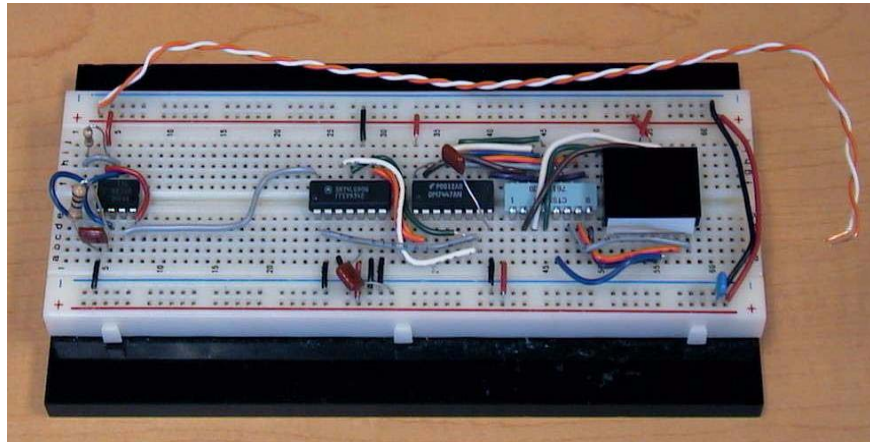
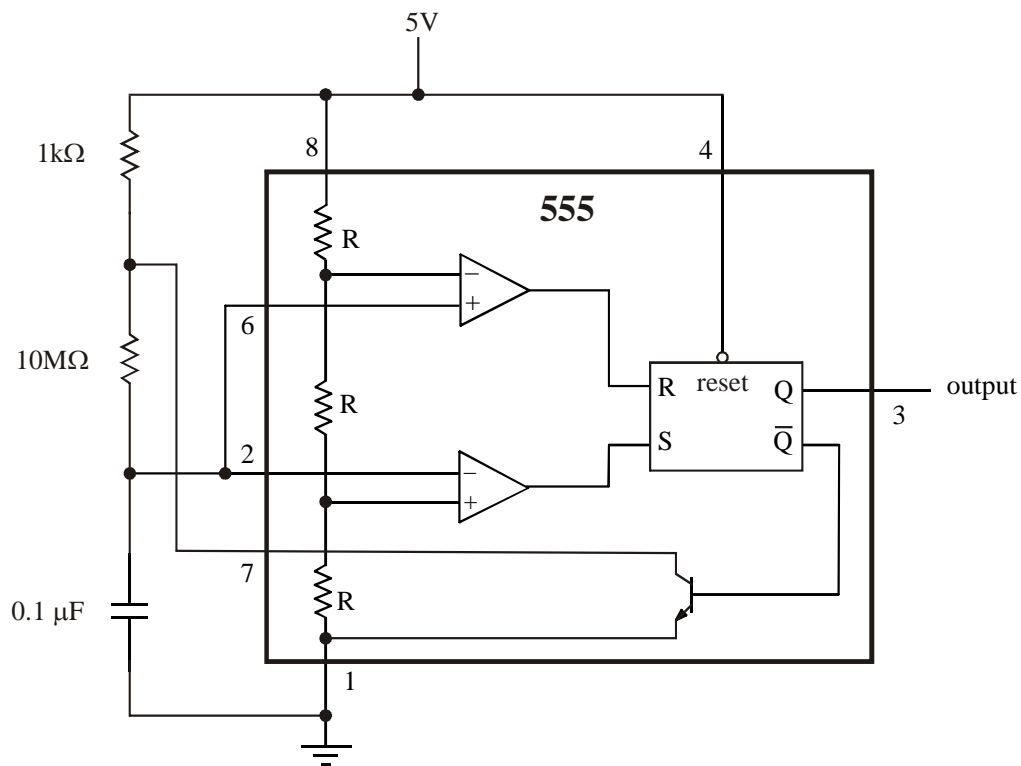
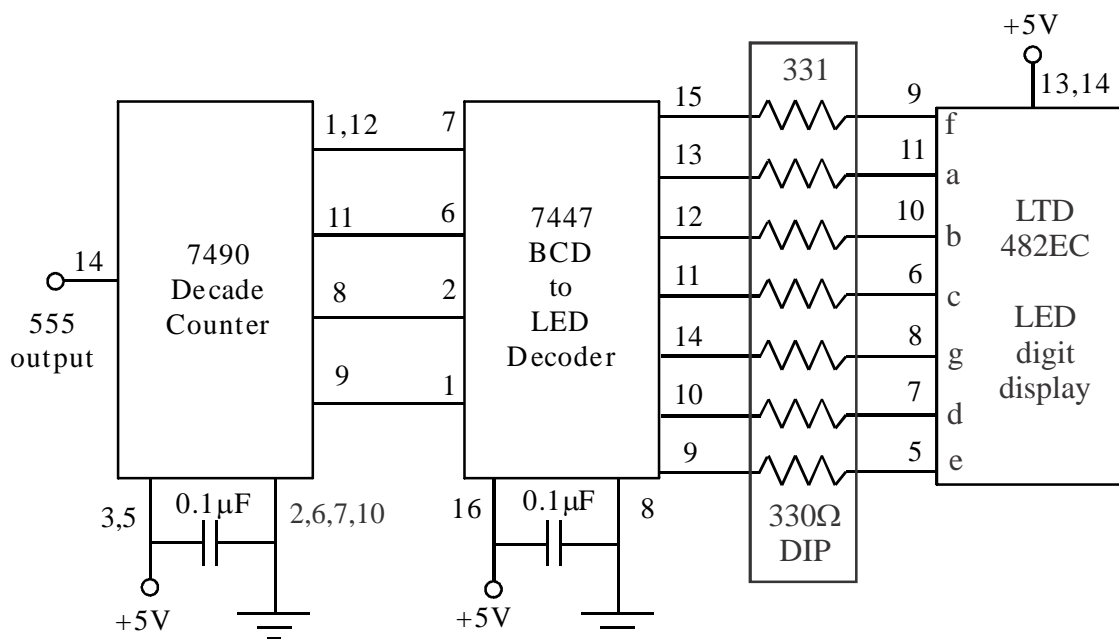

Figure 8.6 Example of Breadboard Wiring
Figure 8.7 555 Timer Circuit
Figure 8.9 Decade Counter Wiring Diagrams
- (1) Construct the 555 timer circuit shown in Figure 8.7 on the left side of your breadboard (see Figure 8.6). Figure 8.8 shows useful information from the 555 datasheet. Using the resistor and capacitor values shown in Figure 8.7, the output of the circuit will be a pulse train with a frequency of approximately 0.7 Hz, corresponding to a period of approximately 1.4 sec (see Section 6.12.3 in the textbook for more information).
- (2) Verify that your timer circuit is working properly by displaying the output on the oscilloscope **and** by driving an LED. Show the result to your TA before continuing. Leave this circuit on your protoboard as it will be used later.
- (3) In the steps that follow, you will construct the one-decade digital display shown on the right side of Figure 8.6. The detailed wiring diagram is shown in Figure 8.9. **Don't start building the circuit yet!** Read the information below and then follow the steps in the remainder of the procedure (starting on the next page). Each group should have a 7-segment LED display (e.g., MAN6910 or LTD482EC), a 7447, a 7490, and a 555.
When making connections, trim wires to appropriate lengths so they will lay flat against the board when inserted. A “rat’s nest” will not be acceptable. Also, if multiple wire colors are available, be purposeful with your selections (e.g., red for power, green for ground, and other colors for different signal types). Please see the TA’s board and Figure 8.6 as model examples.
Figure 8.10 includes useful reference information from the MAN6910 datasheet. If your display is not one of the model numbers listed in Figure 8.9, you might need to look up the spec sheet for your display to see which circuit in Figure 8.9 to use (by comparing the spec sheet to Figure 8.10 if necessary).
- (4) Wire the top and bottom two rows of the breadboard together as shown in Figure 8.6 so both power (+5V) and ground will be accessible on both sides of the board. This makes it convenient to connect to +5V and ground on either side of a component. It is good practice to leave the power supply off and disconnected while working on the circuits. Only when you are ready for a test should you turn on the power supply, check to make sure the voltage is set to +5V, and then connect to your board.
- (5) Before inserting any components in the board, be sure to lay them all out first to make sure everything will fit. Figure 8.6 shows a suggested board layout.
- (6) Insert the MAN6910 2-digit display on the right side of the board, with the corner labeled MAN6910 at the lower-left side. This label marks pin 1 on the MAN6910.
- (8) Insert the 7447 IC next to the 330 Ω DIP resistor IC. Per Figure 8.9, connect the MAN6910 one's (right) digit to the 7447 and connect +5V and ground as shown.
- (9) Activate the 7447 lamp test by attaching 0V to pin 3 and 5 V to pin 4. Turn on and attach the power supply to see if all LED segments come on, as they should.
- (10) Remove the wire from pin 3 and apply +5V to pins 1, 2, 7 and ground to pin 6 of the 7447. Does the display show what you think it should? Turn off and disconnect the power supply before continuing.
- (11) Finish wiring the 7447 and 7490 as shown in Figure 8.9. Refer to the 7490 Reset/Count Truth Table and the description of the reset inputs in Section 8.2. In Figure 8.9, pins 2, 6 and 7 (R0(1), R9(1) and R9(2)) are grounded and pin 3 (R0(2)) is held high, putting the 7490 in count mode. To be able to reset the counter, wire up a normally-open (NO) button to pin 2 (R0(1)) so the signal is low when the button is not pressed (see Question 2 below). When R0(1)=L, the counter will be in count mode, and when R0(1)=H (when the button is pressed), the counter will reset to 0.
- (12) Attach the output of your 555 to the input of the 7490. Double-check your entire circuit! Then turn on and attach the power supply to see if your circuit is working properly. If not, see Section 7.4 in the previous Lab for debugging advice.
- (13) Demonstrate to the TA that your display can increment properly from 0 to 9. At the same time, also demonstrate that you can reset the counter to 0.
- (14) Now disconnect the 555 circuit and wire up a button with a pull-up resistor to the 7490 input instead. Press the button a few times and describe what happens and why in Question 3 below.